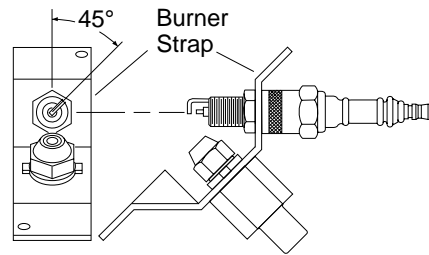

Figure 12 - Spark Plug Rotation
10. Replace burner strap onto spark plug. Rotate burner strap to position spark plug electrodes (see Figure 12, page 11).